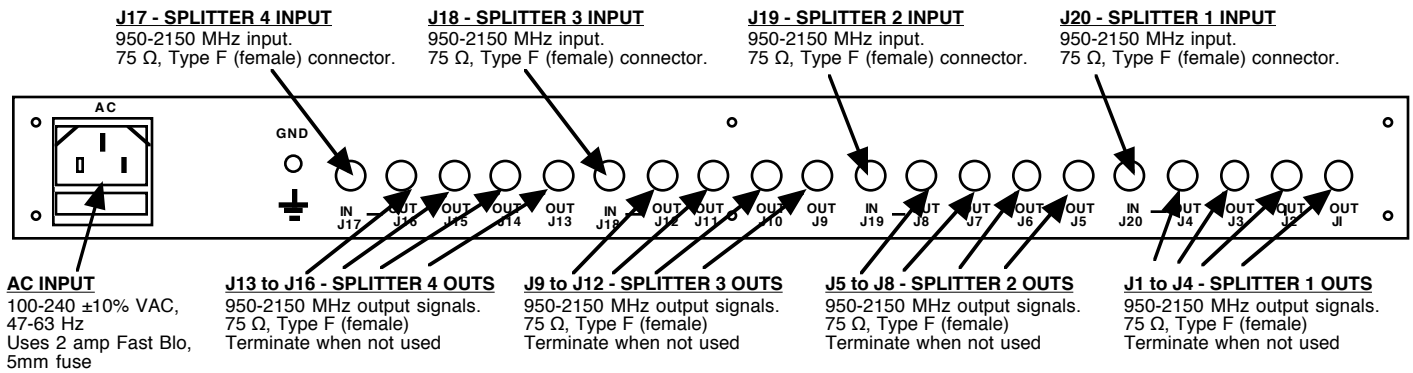

FIGURE 2.1 1584-45S Rear Panel
The 1584-45S consists of one RF printed circuit board (PCB) housed in a 1 RU (1 3/4 inch high) by 12 inch deep chassis. One +24 VDC power supply provides power for the internal amplifiers and LED. Connectors are type F, female for the RF connections. The 1584-45S can be secured to a rack using the 4 holes on the front panel. Figure 2.1 shows how the 1584-45S is assembled. J29 connects the DC voltage from the power supply to the PCB as shown.
The input and output connectors on the rear panel are shown in Figure 2.1.
1. Connect RF cables to the 1584-45S (Figure 2.1).